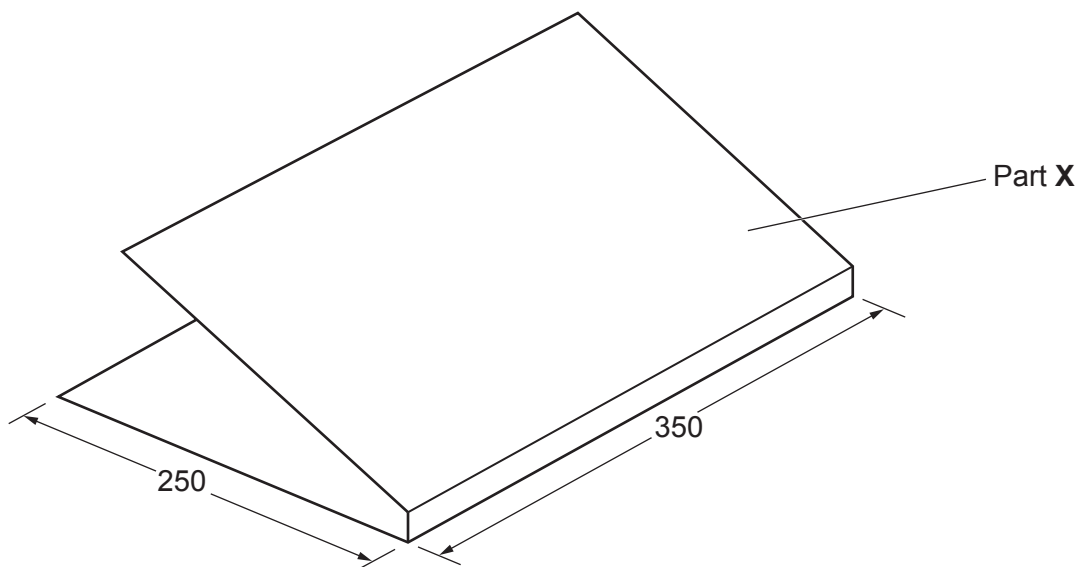

Fig. 5.1
- 5 Fig. 5.1 gives details of a cardboard laptop stand that gives those using it a more comfortable typing position.